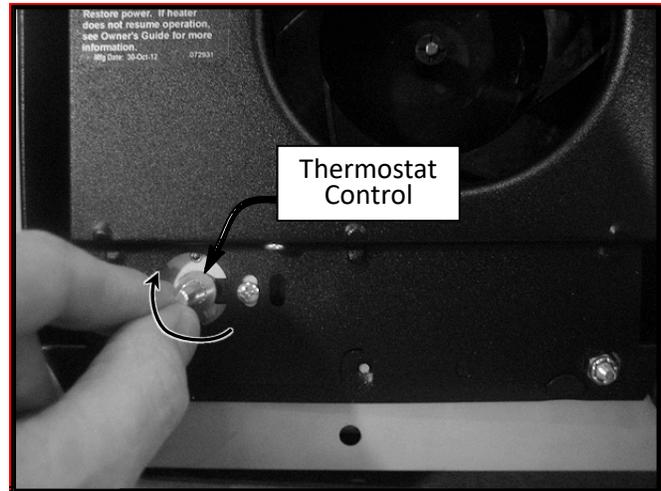

Figure 33
3. Check that the heater thermostat is set to its "HIGH" setting & the dial is turned all the way clockwise. (See Figure 33)